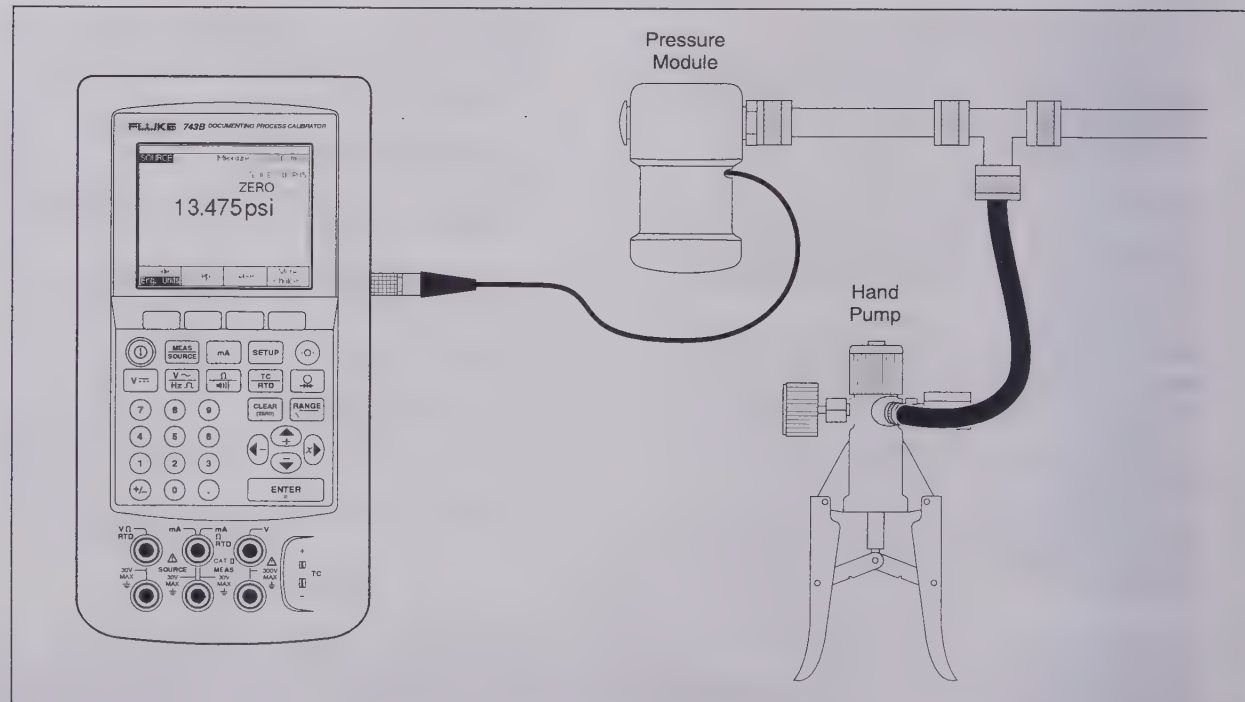

Figure 19. Connections for Sourcing Pressure
The calibrator provides a source pressure display function that requires the use of an external pressure hand pump. Use this function to calibrate instruments that require a pressure source or differential pressure measurement. See Figures 19 and 34 for information about that application.
To use the source pressure display, see Figure 19 and proceed as follows:
1. Connect a pressure module and pressure source to the calibrator as Figure 19 shows. The threads on the pressure modules accept ¼ NPT fittings. Use the supplied ¼ NPT to ¼ ISO adapter if necessary.